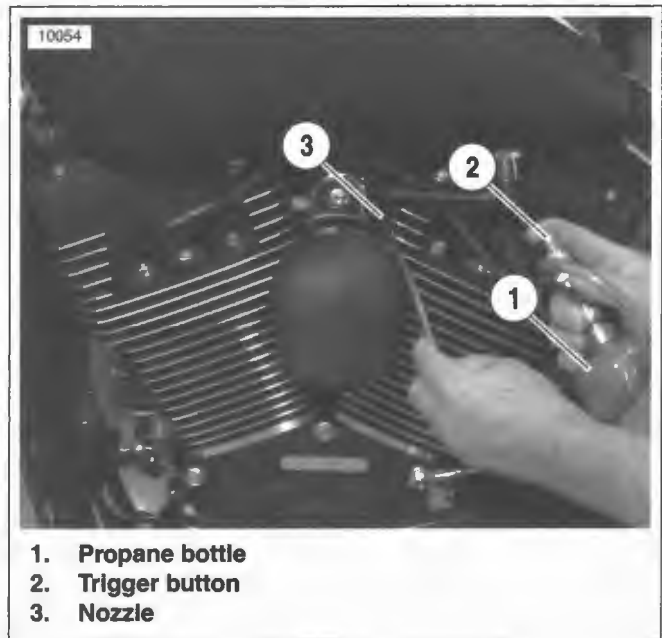

Figure 4-65. Checking for Leaks
3. See Figure 4-65. Aim nozzle (3) toward possible sources of leak such as intake manifold mating surfaces.
4. Push trigger button (2) to release propane. Tone of engine will change when propane enters source of leak.